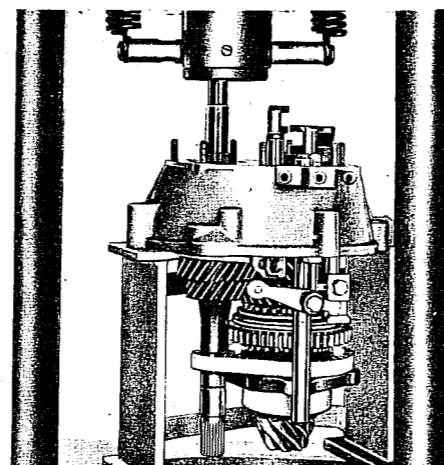

Fig. E.19. Pressing out the main drive shaft.
14. Remove the whole gear train by pressing on the selector end of the drive shaft, taking care that the shafts are guided so that the teeth are not damaged (Fig. E 19). Take care that the  $\frac{3}{4}$  shift fork does not jam.